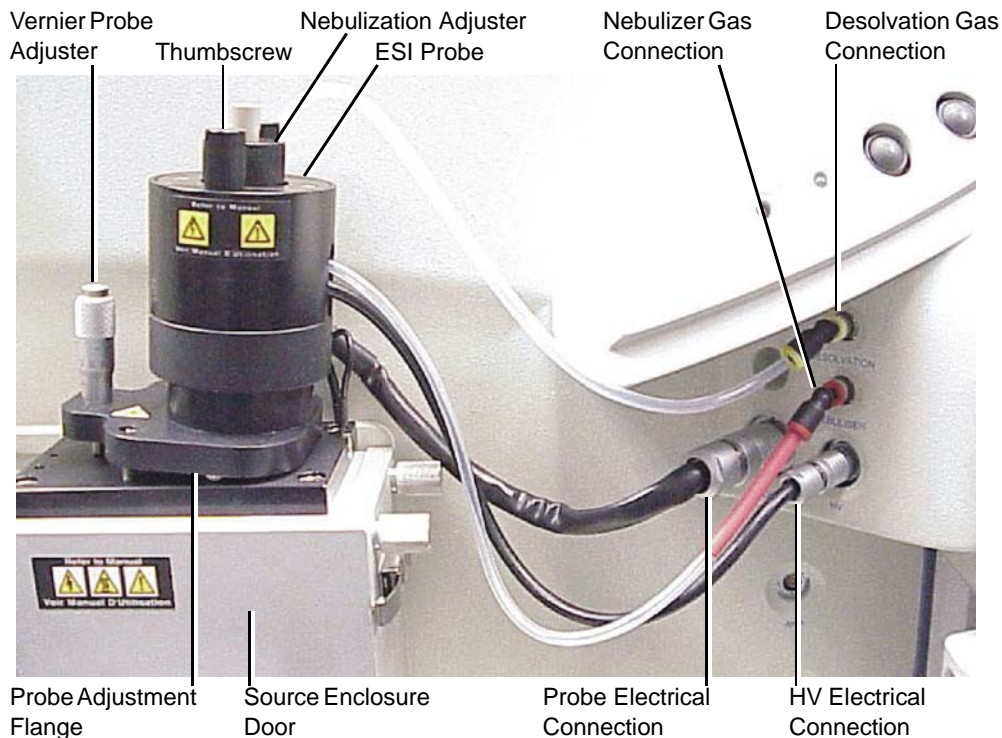
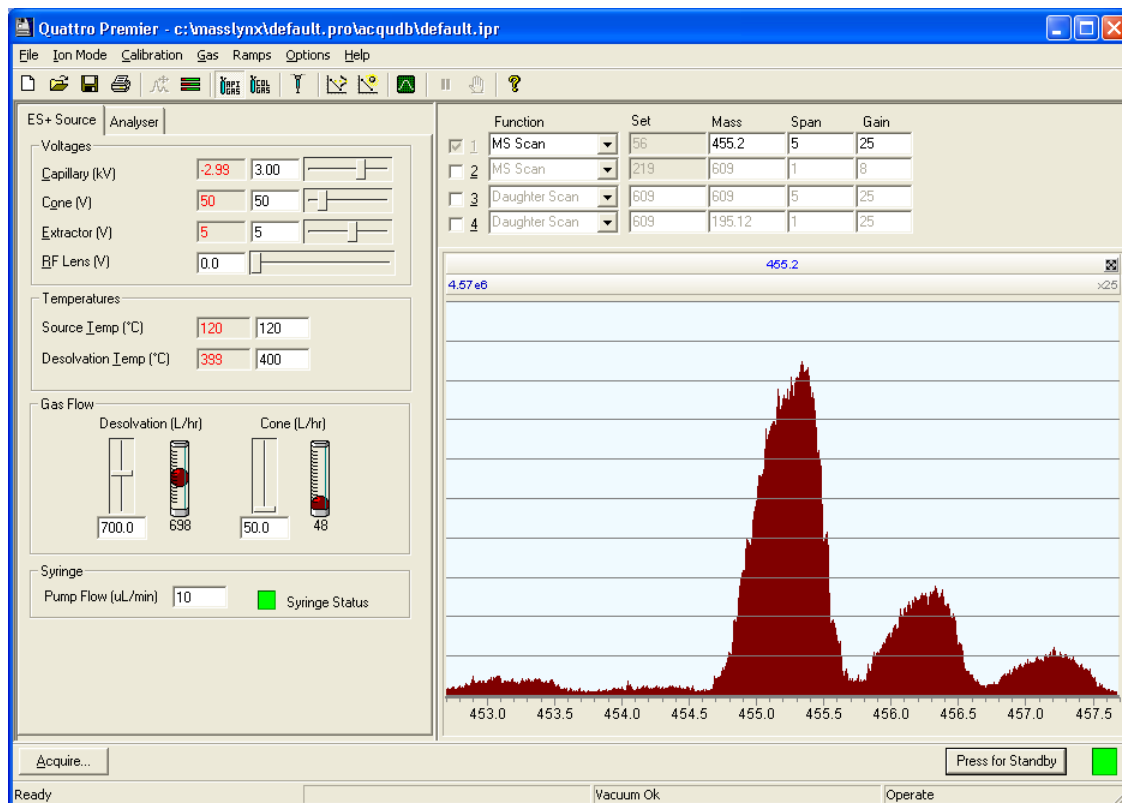

Figure 2-2 ESI Probe Mounted on the Source Enclosure, Showing the Connections to the Front Panel
Figure 2-6 Tune Window with a Verapamil Peak
5. Secure the probe by tightening the two thumbscrews (Figure 2-2).
20. Observe the verapamil peak at m/z 455.2 ($\text{M}+\text{H}^+$) in the Tune window (see Figure 2-6).
21. Use the vernier probe adjuster, on the probe mounting flange (see Figure 2-2), to maximize the displayed peak intensity.
23. Use the nebulization adjuster, on the probe (see Figure 2-2), to give the best displayed peak intensity and stability.
27. Starting from a value of 15, increase the Cone (V) voltage in increments of 2. Set the cone voltage to the value giving the highest displayed peak intensity. Record this value.
28. Starting from a value of 0, increase the Extractor (V) voltage in increments of 1. Set the extractor voltage to the value giving the highest displayed peak intensity.
29. Adjust the RF Lens (V) voltage to the minimum value that maintains the highest peak intensity, without loss of resolution.
30. Confirm that the displayed peaks have the correct resolution (the isotopes are resolved as shown in Figure 2-6). If necessary, adjust the Analyser page LM
31. In the Tune window, determine the m/z value of the peak's center, to one decimal place (Figure 2-6). Record this value.